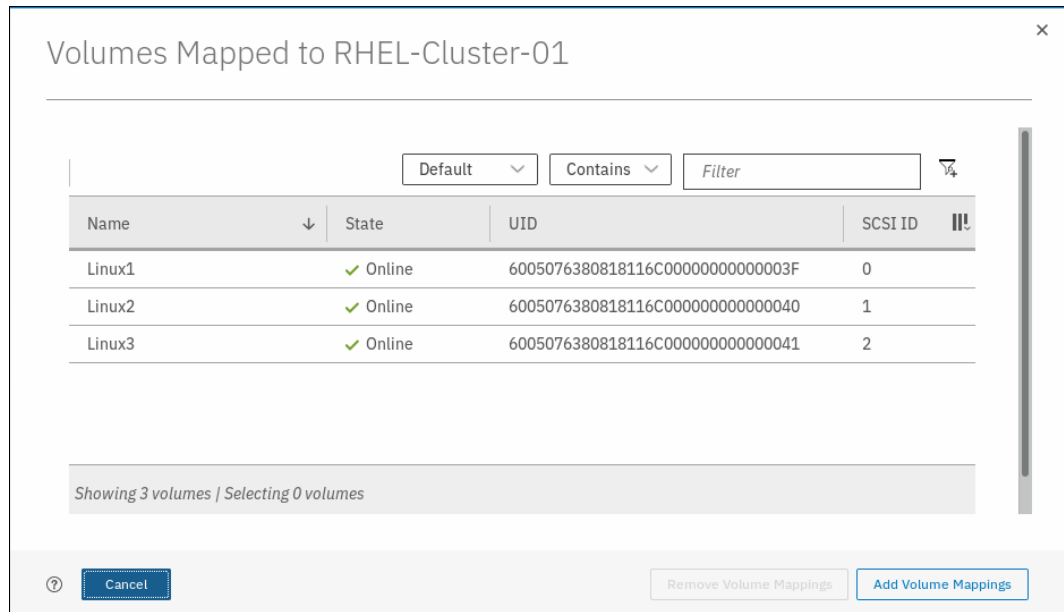

Figure 5-92 List of volumes mapped to a host cluster
3. A window showing a list of volumes that are mapped to the host cluster opens, as shown in Figure 5-92.